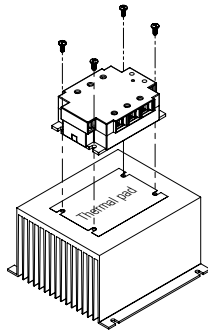

fig. 1 53TP Series SSR mounted on HS053 heat sink
- 53TP Series Relay mounting slots have a diameter of 0.2 in (5.0 mm). Four screws are needed (not included) to mount the SSR onto heat sink (See fig. 1). Choose screw length considering the mounting surface and that 53TP Series baseplate thickness is 0.125 in (3.2 mm).